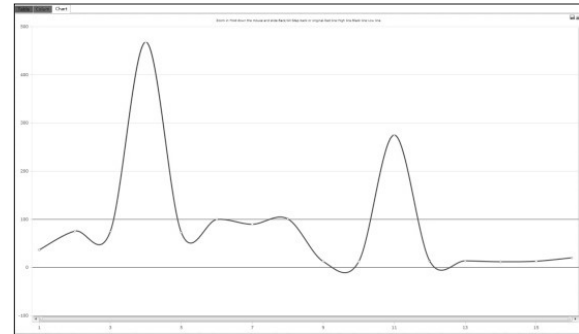

Figure 6-3
- ③ Click the left key of the mouse and draw to zoom in the area selected while click the EXIT/FULL DISPLAY on the right upper corner to zoom out.
- ④ Click the icon on the right upper corner to save/print current charts.
- (3)Line chart(Figure 6-3):Identical with bar chart.